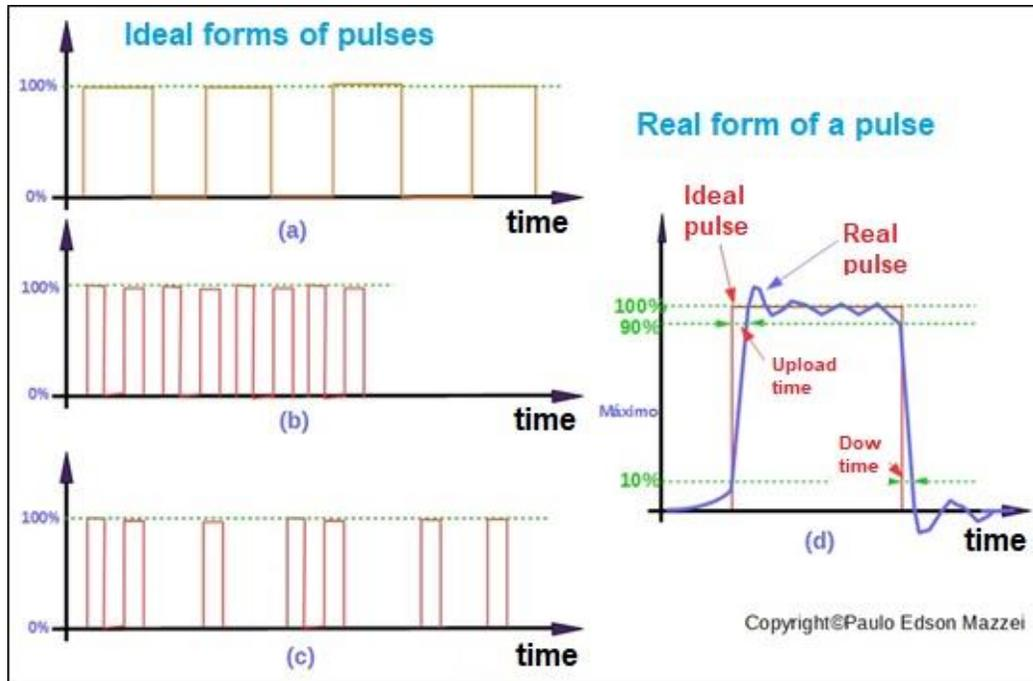

Figure 95 - "Ideal" and "real" pulse forms.
- There is no "perfect" pulse, i.e. it would reach a maximum value of 100% in (0 seconds) and would be stable at 100% for a certain time (pulse width) and then drop abruptly (0 seconds) from 100 % to 0%! See **(a)**, **(b)** and **(c)** in **figure 95**.
- Due to this, the "real" pulse would take some time to reach a maximum value and a certain time to drop from the maximum value to zero. Note also that the pulse is not stable at its maximum value or fall. See **(d)** in **figure 95**.